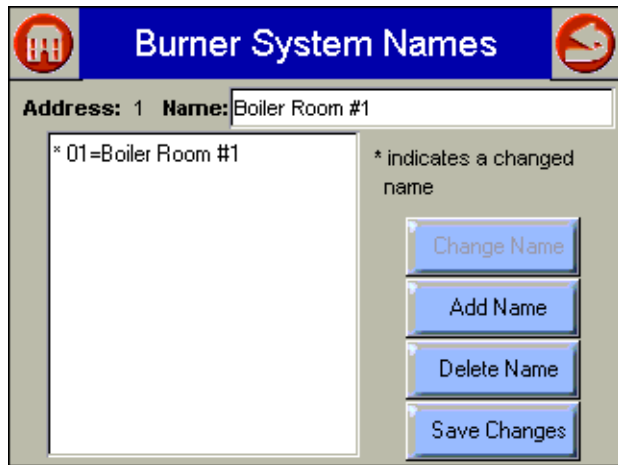

Fig. 102. Burner System Name.
5. Entered name appears in Name text box and in list box on original screen (see Fig. 102).
1. Select the name in the list box (Fig. 102)
6. Entered name appears in Name text box and in list box on original screen (see Fig. 102).